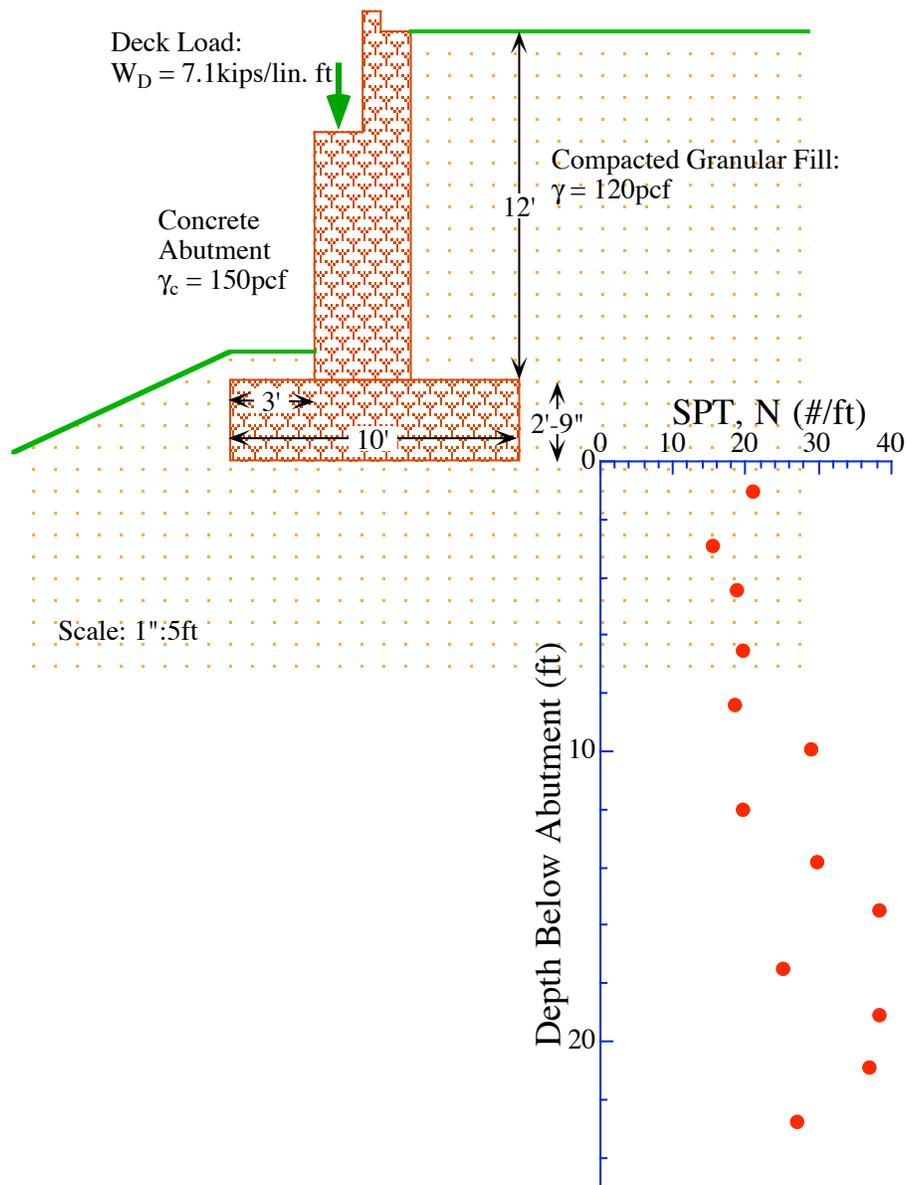

Figure 4. Settlement of Bridge Abutment on Compacted Fill
3. Figure 4 shows the abutment of a four lane bridge constructed on top of cohesionless soils (profile characterized by SPT data only) with a 14.75ft compacted soil backfill.